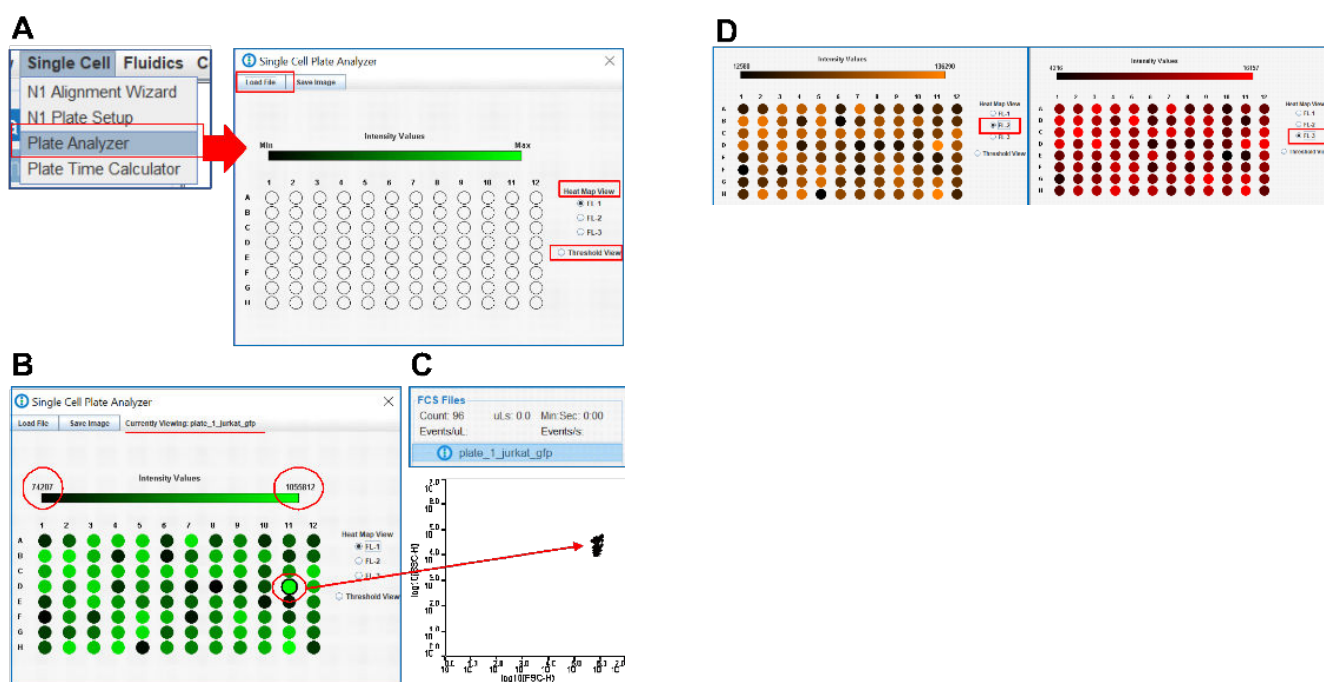

Figure 66. The Plate Analyzer Heat Map View.
2. Click "Load File" and select a .csv file from a single-cell sort (Fig. 66 A).
5. Click on any of the wells to see the event displayed in red on any of the plots opened for analysis (Fig. 66 B-C).
6. The user can see the map in the FL2 and FL3 channels (Fig. 66 D).